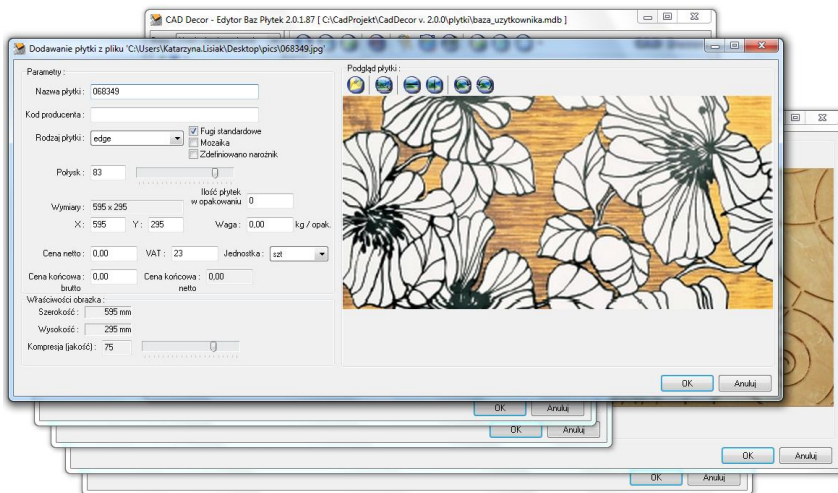

Fig. 221 – adding a few tiles in one time to the User Database
*Note! It is possible to add more than 1 tile to the currently created collection in one time. To do it, after adding a new collection, without clicking the Add new... icon, move prepared picture files of tiles (in JPG format) to the Tile Editor dialog, using the 'drag-and-drop' method. It will result in opening a few new dialogs Adding a tile from a file, one for each picture file dragged to the editor's dialog. Fill out the data fields in each dialog (Fig. 221).*